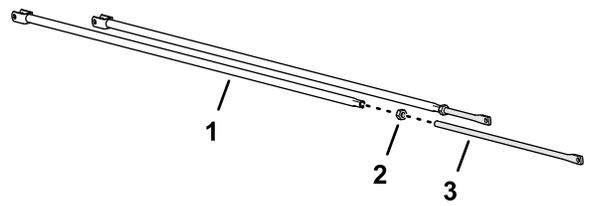

Figure 22
1. Assemble the nut (7/16 inch) onto the control-rod link (Figure 22).
2. Assemble the link and nut to the control-rod tube (Figure 22).